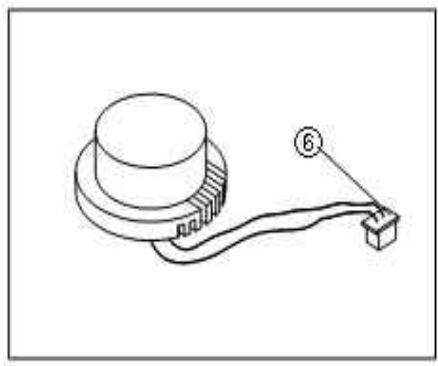

Fig.14
1. Generally, LED lamp is very durable, so it is not easy to damage. If it is unfortunately damaged, please purchase the LED (fig.14) from your vendor.
2. Open the bottom plate ③ by screwdriver, loosen screw④ to take the LED lamp⑥ down and unplug the connector ⑥ from the breadboard. Mount new LED lamp, tighten screw ④ and insert the connector⑥ fully into the breadboard.